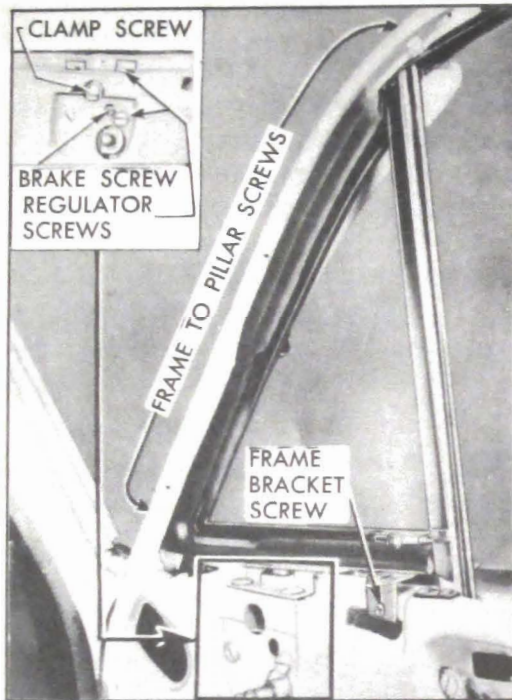

Figure 13-36—Ventilator and Regulator Mounting
Door ventilators are operated by a regulator mounted on the door inner panel. A bolt type lock riveted to the glass channel provides a lock for the ventilator. See figure 13-36.
Excessive play at ventilator lower pivot may be corrected by tightening the clamp screw which attaches the glass channel T-shaft to ventilator regulator. See figure 13-36.
Excessive looseness or tightness in operation of the ventilator regulator may be corrected by adjusting the screw which controls the brake or friction clamp on the regulator. See figure 13-36.
2. Remove clamp screw which attaches glass channel T-shaft to regulator, also the regulator attaching screws. See figure 13-36.
procedure. Adjust the brake screw (fig. 13-36) to provide proper operating tension on regulator before attaching trim pad.
3. Remove screw attaching ventilator frame bracket to door inner panel, and screws attaching frame to door hinge pillar. See figure 13-36.